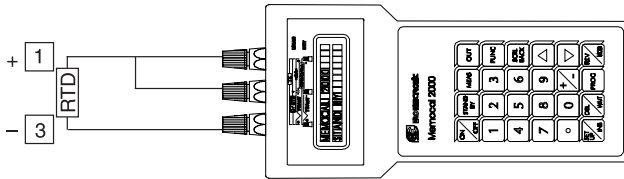

Fig. 9
- Measure the temperature close to terminals 1 and 3 using a calibrator, for instance, the MEMOCAL (see Fig. 9).